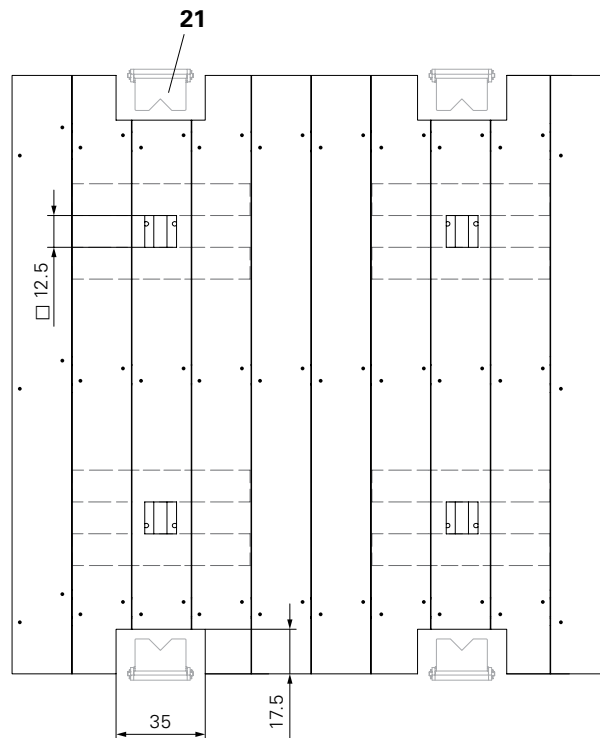

Fig. B5.09
In addition, openings of 17.5 x 35 cm in the planking (28) are required in the area of the Folding Brackets (21). (Fig. B5.09 + B5.10)